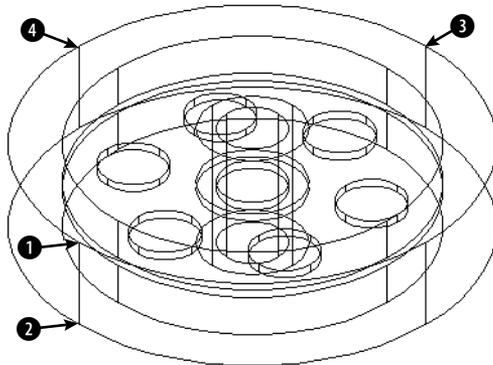

Figure 24-22: The 3D model for slicing.
1. If you have ab24-03.dwg open from the previous exercise, use it. Do a regen to remove the hidden view. If you don't have it open, open it from your AutoCAD Bible folder or from the Results folder of the CD-ROM. Make sure that OSNAP is on. Set running object snaps for endpoint, midpoint, center, and quadrant. Make sure you have both the Solids and the Solids Editing toolbars open. The drawing is shown in Figure 24-22.
<3points>: *Pick the quadrant at 1 in Figure 24-22.*